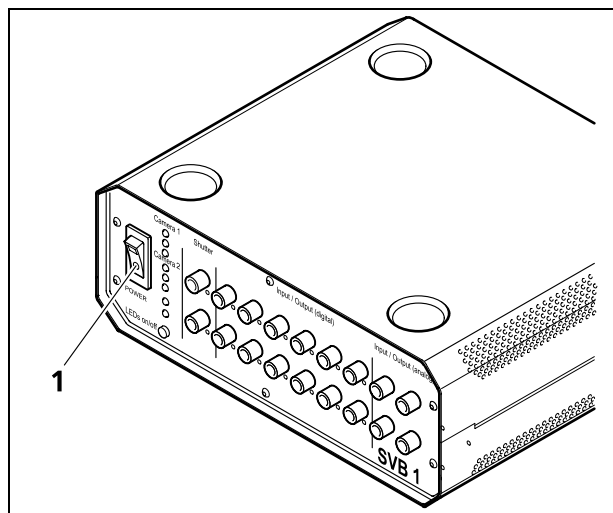

Fig. 4-7 Turning the signal distribution box on
- Transfer the On/Off switch (Fig. 4-7/**1**) of the signal distribution box into On position. The green control LED (built into the switch) lights.
- Toggle the On/Off switch into position **0** to turn the signal distribution box off (Fig. 4-7/1).